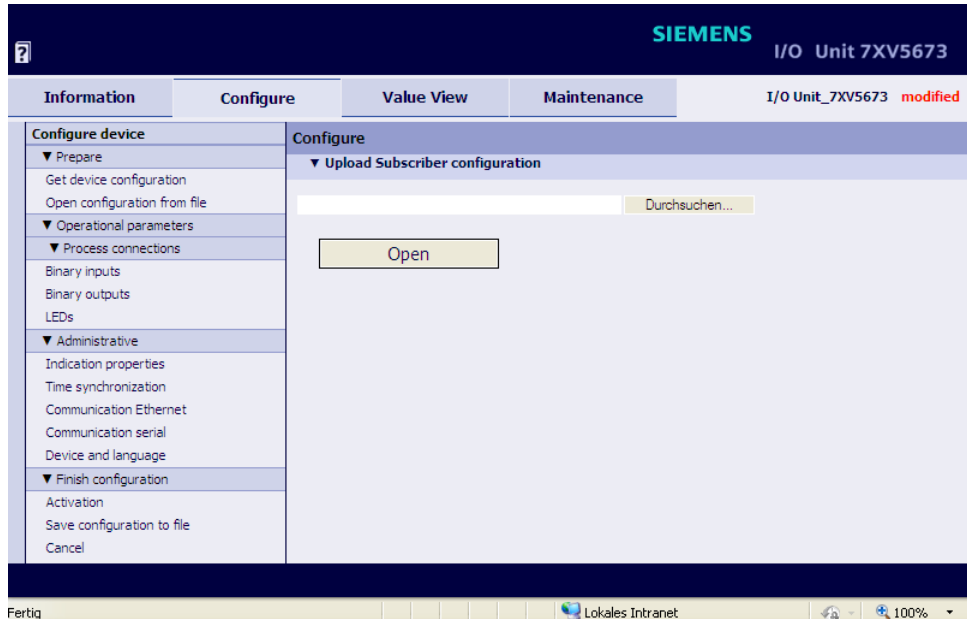

Figure 6-37 Upload Subscriber Configuration Dialog
The selected path is inserted into the **Browse...** field in the input/output window (see Figure 6-37).
- Click the **Open** button (see Figure 6-37).